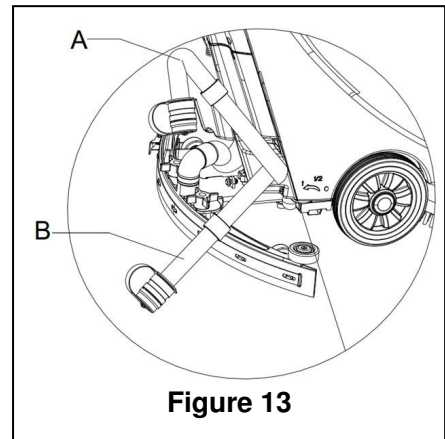

Figure 13
2. Raise the squeegee assembly (14).
4. Grasp the handle (2) and tilt the machine backward until the guide wheel touches the floor.
5. Remove the drain hose from the clip, bend the top end of draining hose (A, Figure 13), and then remove the drain hose cap. Lower the hose to a low level or on the ground to drain the water. Alternatively, place drain hose to a low position or on the ground to make the water outlet face downward (B, Figure 13), and then twist open the drain cap to drain the wastewater in the tank. After draining is completed, rinse the inside of recovery tank with clean water
When draining the wastewater, the drain hose must be folded or lowered to a lower position (Figure 13 A or B), and the cap removed for wastewater to drain. Do not allow the opening of the drain hose to face upward, as it could get wastewater on the operator..